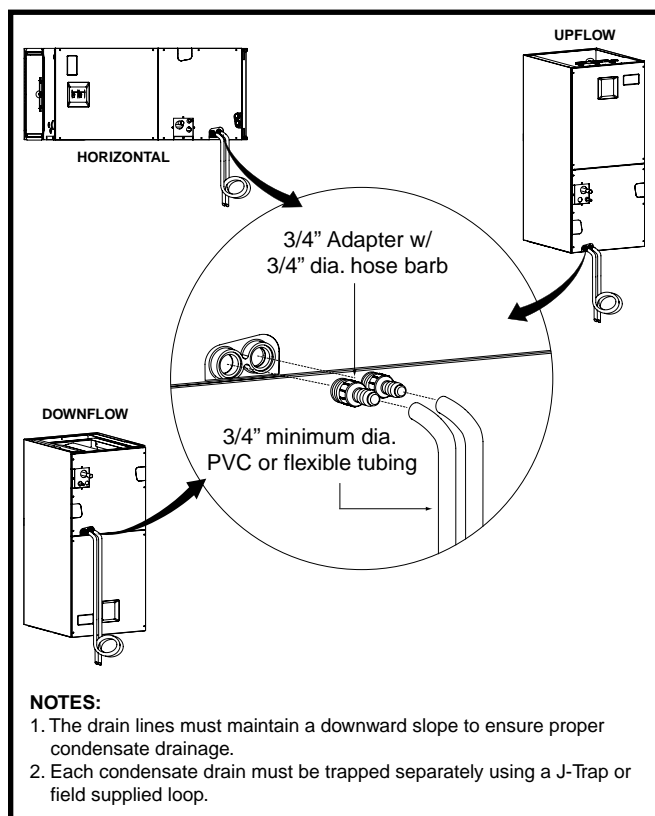

Figure 6. Condensate Drainage
- The drain pan that is supplied with this air handler contains a primary and secondary drain fitting. The condensate is drained from the unit through two 3/4" female pipe fittings located on the front side of the unit as shown in Figure 6.